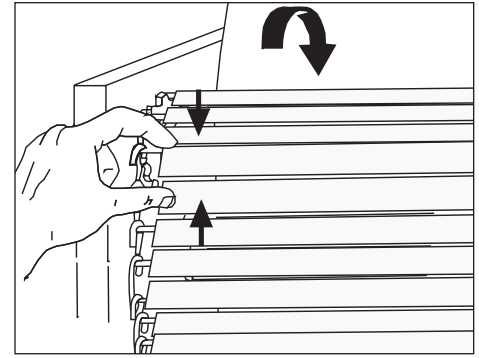

Figure 4. Remove Belt Link
8. Disconnect the Conveyor Belt Chain by squeezing any two links together and unhooking both ends of one link (Figure 4). Needle-nose pliers may be used
**NOTE:** The ends of the hooks must point down (Figure 4).